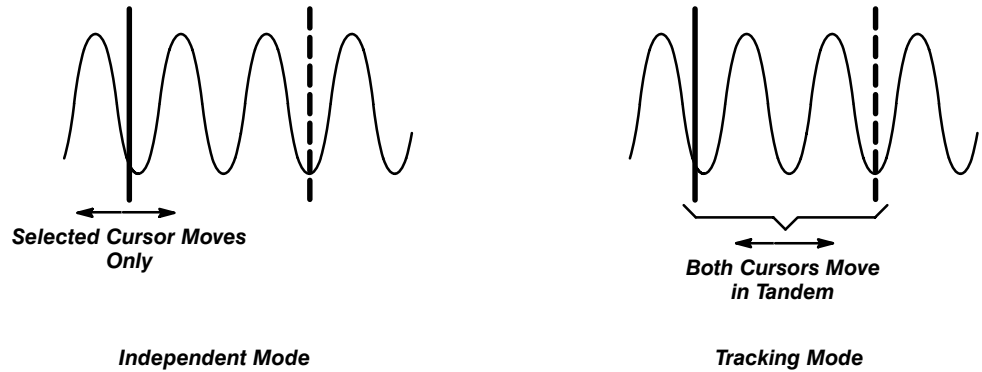

Figure 2-15: Cursor Modes
*Independent mode* cursors operate as described earlier; that is, you move *one* cursor at a time (the active cursor) using the general purpose knob, and you use the **TOGGLE** button to toggle which cursor bar is active. (See Figure 2-15.)
*Tracking mode* cursors operate in tandem: you move *both* cursors at the same time using the general purpose knob. (See Figure 2-15.) To adjust the solid cursor relative to the dashed cursor, you push the **TOGGLE** button to suspend cursor tracking and use the general purpose knob make the adjustment. A second push toggles the cursors back to tracking.